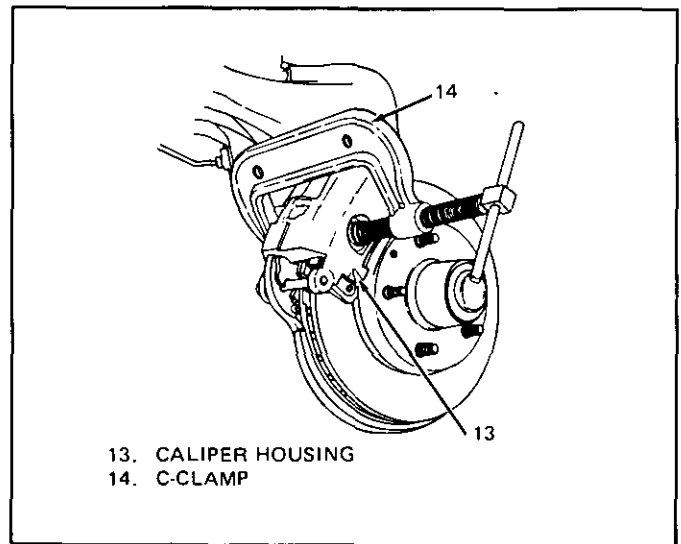

Figure 2 Compressing Piston
- Position C-clamp (14) as shown in Figure 2 and tighten until piston (10) bottoms in bore (13).
- C-clamp (14)